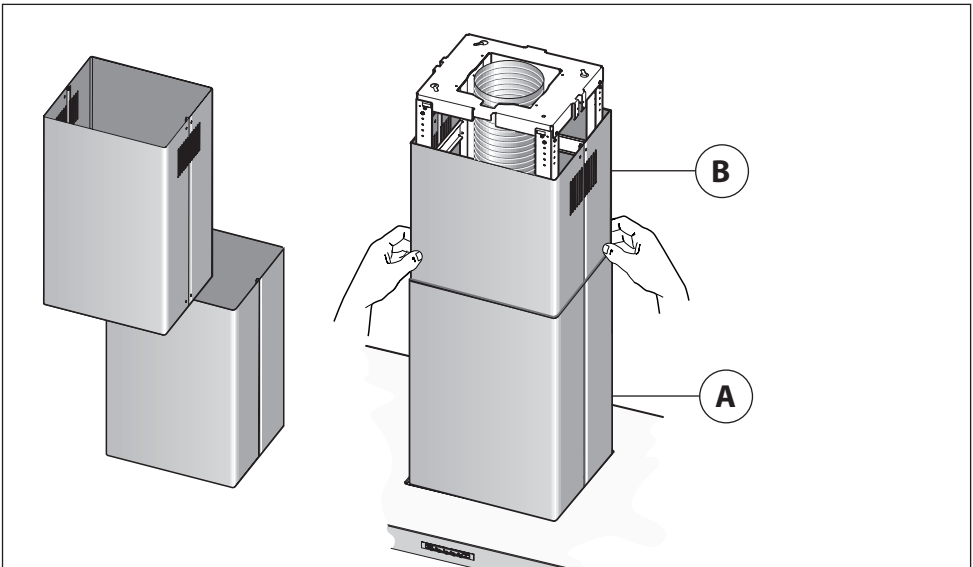

Fig.6
- Couple the lower chimney **A** to the upper one **B** and insert it on the structure as indicated in figure 6.